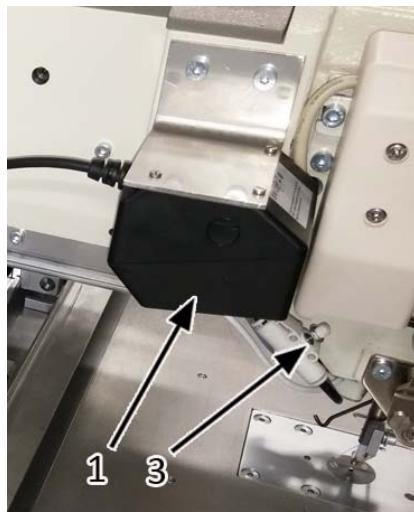
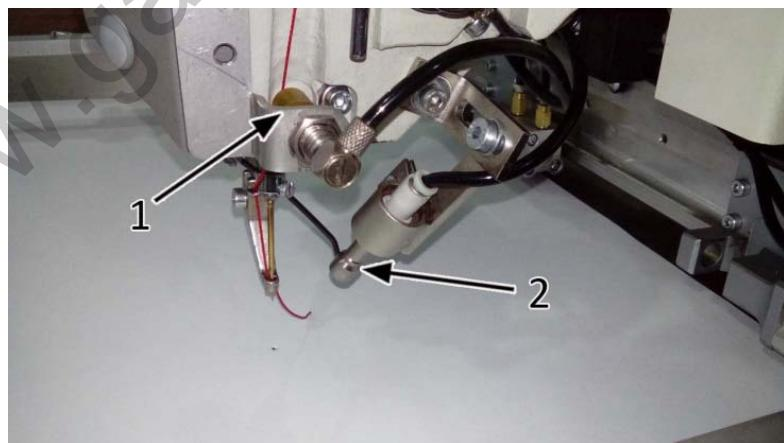

Fig. 47
Fig. 50
Fig. 47 shows position of the barcode reader (5) on the machine.
Fig. 50 shows position of the thread holder (1). This device is activated by *parameter 32*. Default value is 100 for oscillating shuttle hook and 700 for rotary hook.
Fig. 50 shows position of of nozzle (2) used for needle cooling. This function is activated by *parameter 31*. Fig. 47 shows valve (3) for adjustment of the amount of air supplied to the cooling nozzle.